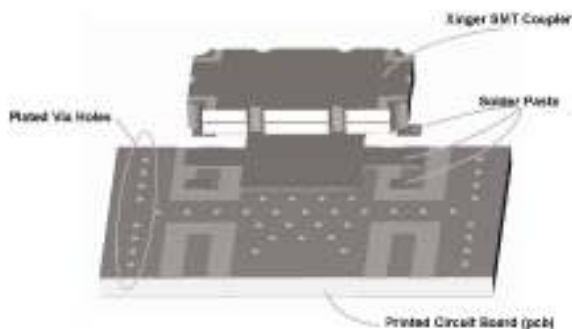

**Figure 3: Solder Paste Application**
**Solder Paste:** All conventional solder paste formulations will work well with Anaren’s Xinger III surface mount components. Solder paste can be applied with stencils or syringe dispensers. An example of a stenciled solder paste deposit is shown in Figure 3. As shown in the figure solder paste is applied to the four RF pads and the entire ground plane underneath the body of the part.